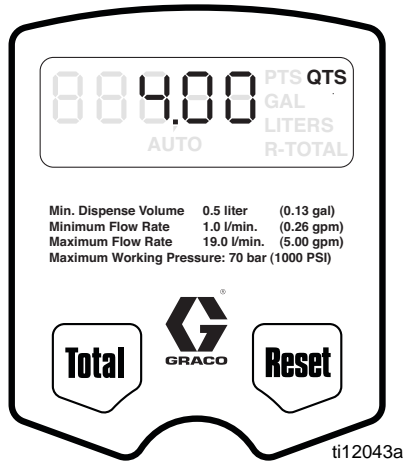

FIG. 16
1. If the display was blank (in sleep mode), press and hold the Total or Reset button. The amount of the last dispense appears on the display (FIG. 16).